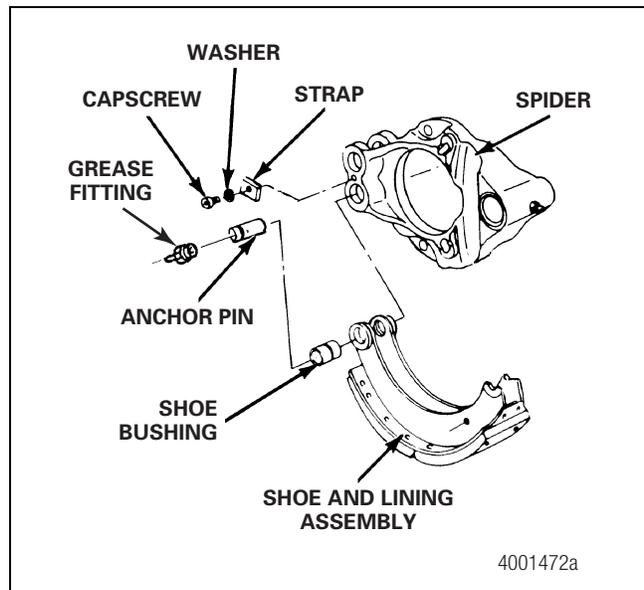

Figure 5.23
- A. **For a straight anchor pin with a strap**, place the anchor pin through the shoes and into the shoe side of the spider. The slot in the pin must be toward the bore for the strap fastener in the spider. Figure 5.23.